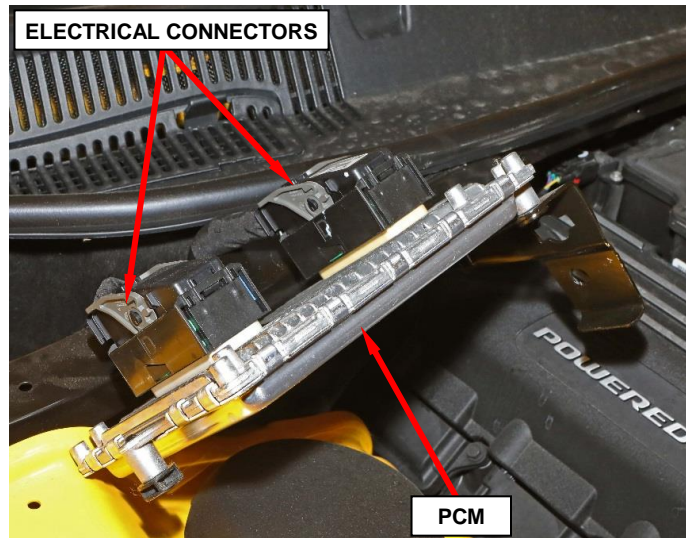

Figure 8 – PCM Electrical Connectors
5. Disconnect the PCM electrical connectors (Figure 8).
6. Remove the PCM from the vehicle (Figure 8).
10. Connect the PCM electrical connectors to the PCM (Figure 8).